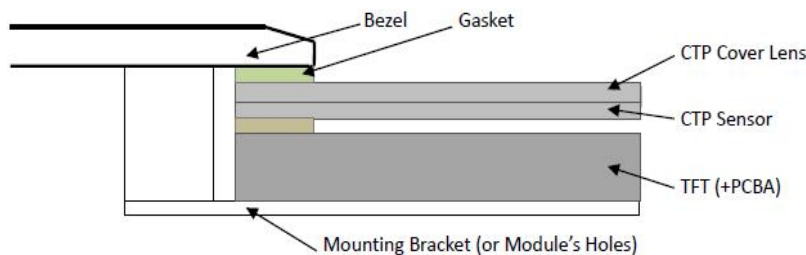

Figure 1
**7.1 Bezel Mounting (Figure 1)**
**7.1 面框安装（附图1）**